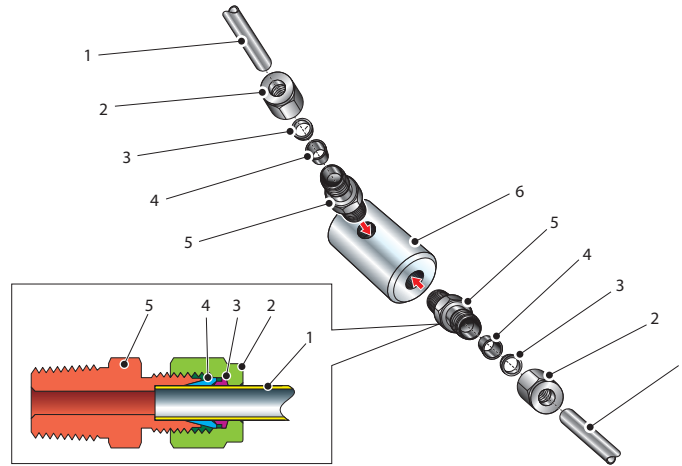

Figure 16 Sample Block Gas Connections
Sample gas connections are made to the Gas In and Gas Out ports on the sample block (see *Figure 16*). Either port on the sample block may be used as the Gas Input port (i.e. for connection purposes the ports are interchangeable).
Both the Input and Output gas connections are 1/8" NPT. It is recommended that both the Gas Input and Output connections are made via 1/8" NPT to 6mm or 1/8" NPT to 1/4" stainless steel tube adaptors (2...5 – *Figure 16*). The method of connection to the sensor block (6) is as follows:
1. Cut a suitable length of 6mm (1/4" U.S.) stainless steel tubing (1) to the correct length and, if necessary, bend to shape to suit the location of the sensor block assembly. **NOTE: To facilitate ease of connection to the port, at least 75 mm (3") of the tubing coming out of the Gas In port must be straight.**
3. Screw the 1/8" NPT (1/4" U.S.) NPT Swagelok adaptor (5) into the 1/8" NPT (1/4" U.S.) NPT inlet port in the sensor block (6) and tighten to a torque setting of 35 Nm (25 lbf-ft).
4. Pass the stainless steel tubing (1) through the locking nut (2). **NOTE: Threads towards the gas port.**
5. Fit the back ferrule (3) over the stainless steel tubing (1) with the bevelled end facing the back of the front ferrule (4).
6. Place the front ferrule (4) over the stainless steel tubing (1), bevelled end towards the adaptor (5).
7. Push the stainless steel tubing (1) as far as it will go into the adaptor (5) and tighten up the locking nut (2) finger tight.
8. Hold the adaptor (5) flats with a spanner and tighten up the locking nut (2) to a torque setting of 35 Nm (25 lbf-ft) (1¼ turns). This action compresses the front ferrule (4) and back ferrule (3) onto the tubing to form a gas tight seal.